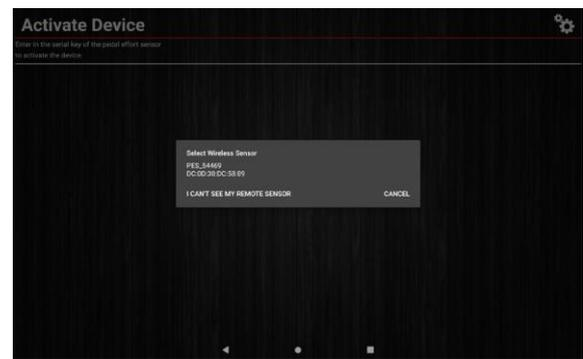

Figure 61
3. The Workshop Pro 10 will connect to the Pedal Effort Sensor. Ensure the device is ready for connection (Figure 61).